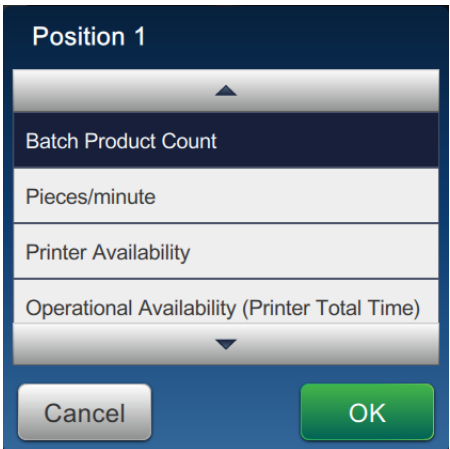

Figure 6-20: Modify Position Options
2. Touch the required position to change the options in Home screen as shown in Figure 6-20.